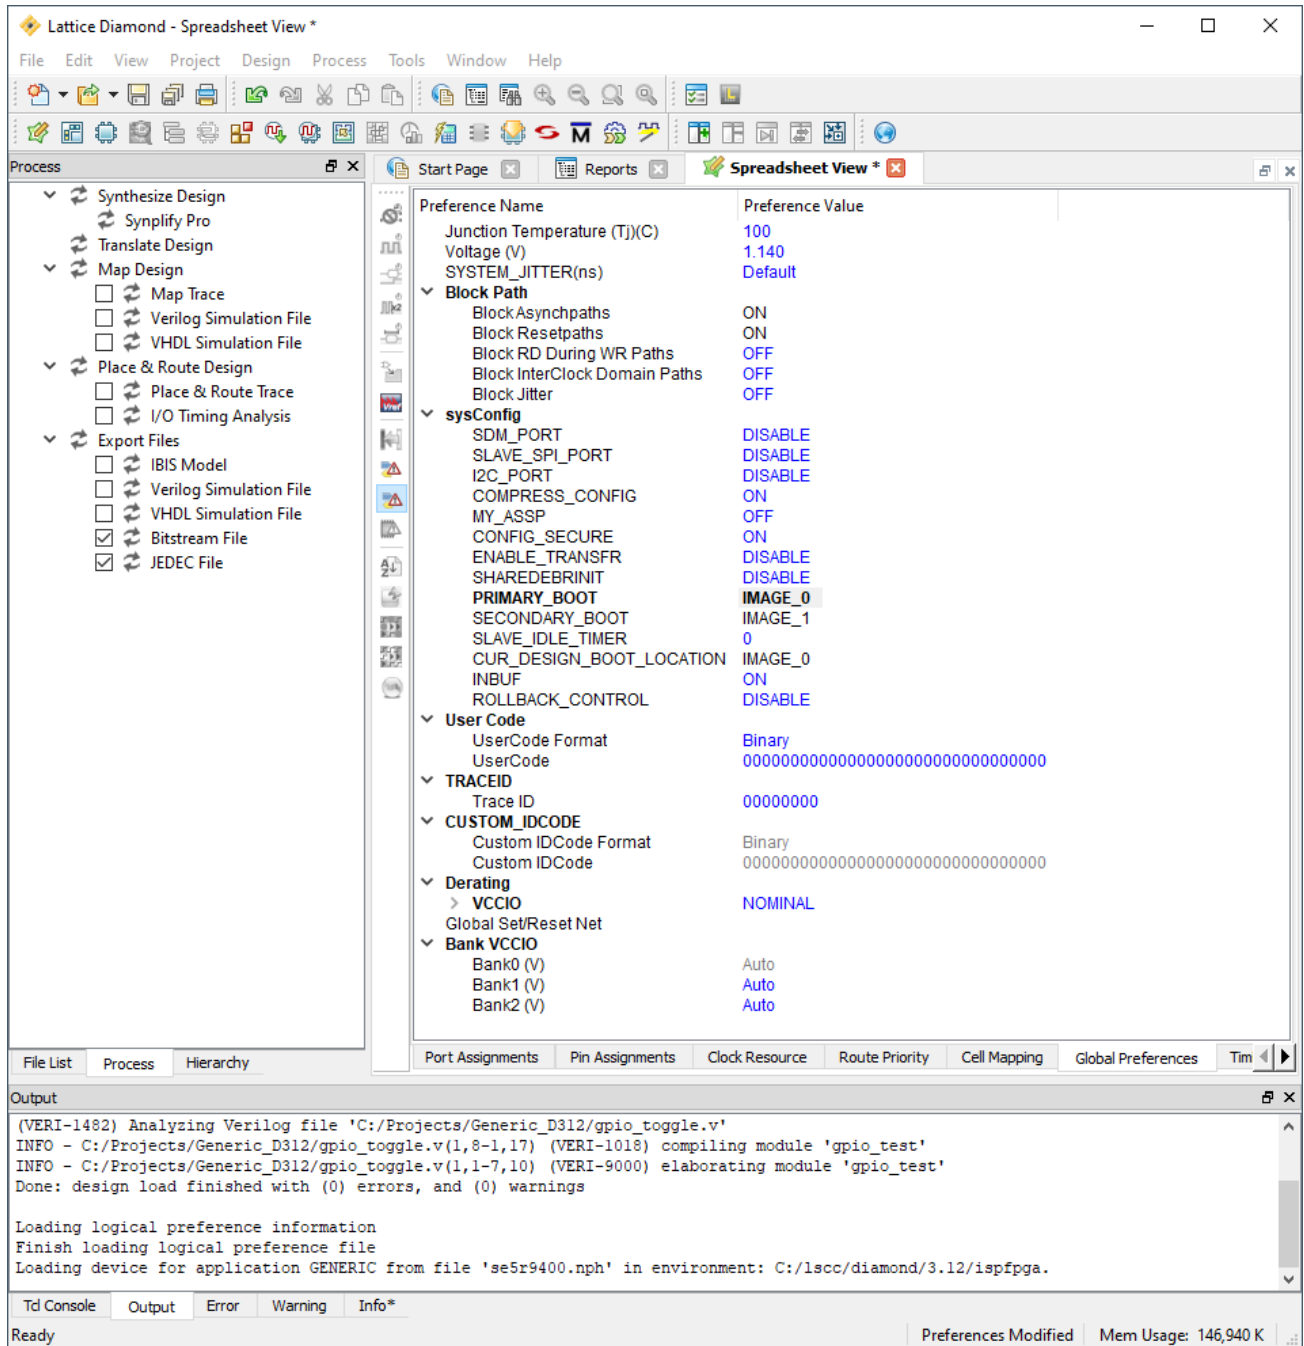

Figure 3.2. Lattice Diamond Software – Spreadsheet View – Global Preferences Tab
2. Go to the **Global Preferences** tab and the options are listed under sysConfig in Figure 3.2. Four possible dual boot configurations are available for Mach-NX devices: